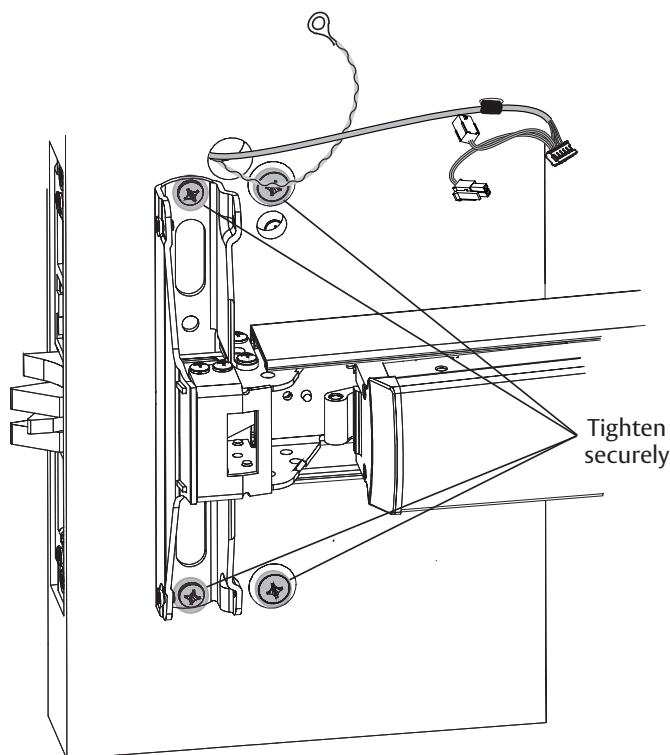

Figure 6-4B
4. Fully tighten four (4) chassis through bolts. (Figure 6-4B)